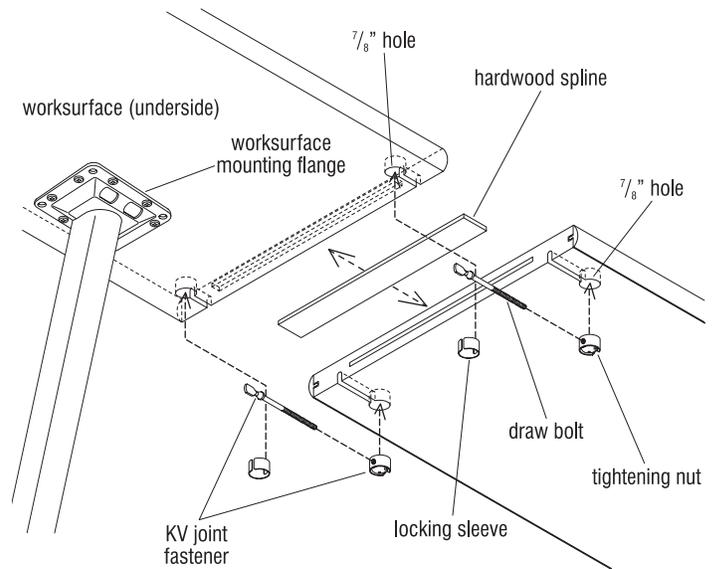

Figure 3
10. Worksurfaces are to be joined together from underneath with two KV joint fasteners per pair of worksurfaces (Figure 3). First join both worksurfaces together, aligning the hardwood spline (installed in one worksurface at the factory). Check to make sure hardwood spline fits snug in both worksurfaces. If it does not, lightly sand down the spline so it does fit. If this is not done, it may be difficult to get a tight fit on the worksurface seam. The spline joint and worksurface seams are to be glued using the adhesive supplied with the KV fasteners. Do not use a wood glue for seam gluing as the working time for that adhesive is too short. Then, thread each draw bolt a few turns into each tightening nut and press each pair up into a 7/8" hole and slot. The flat end of each draw bolt will be visible in the 7/8" holes of the worksurface being joined. Insert locking sleeves into the 7/8" holes so that the slotted sleeve engages the rounded collar on the bolt (Figure 3). Tighten the nut with a tightening tool or nail set. Check the top side of the joint for proper alignment. The joint should be smooth and level with no gaps. Adjust as necessary to achieve a "seamless" look. Once the seam is glued, use the C-clamps to clamp either end of the seam.